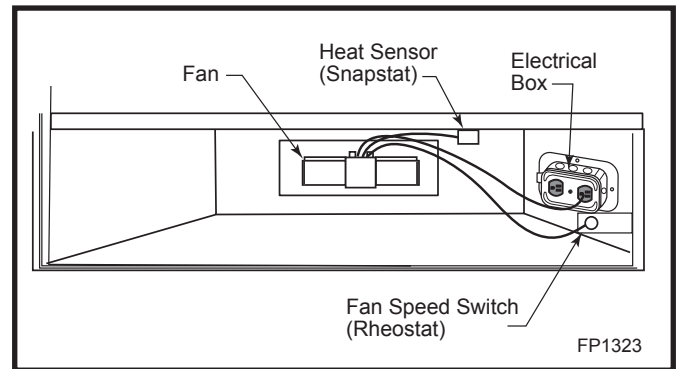

Fig. 32 FK26 fan placement.
1. Place fan assembly at the back of the unit between hearth supports. Attach using velcro strips provided. (Fig. 32)